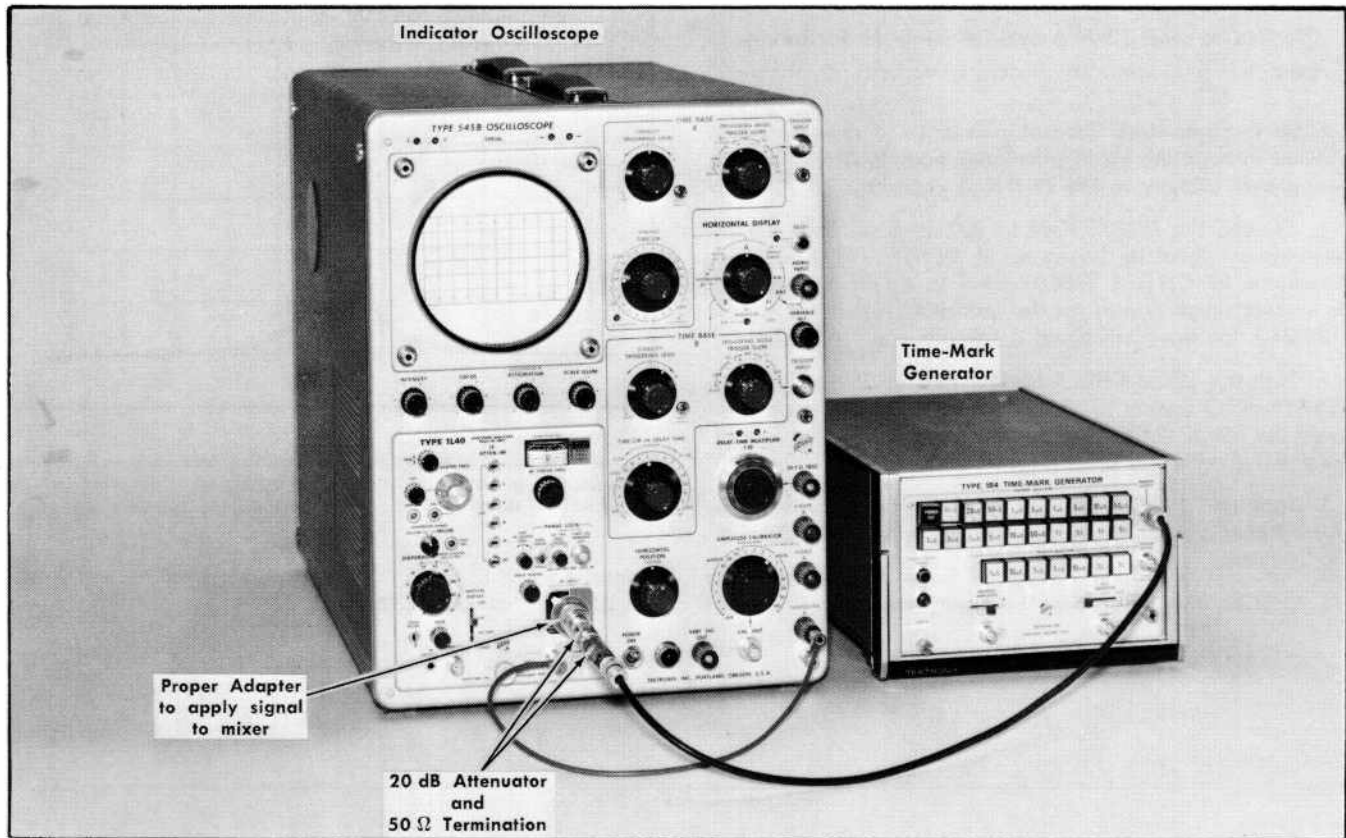

Fig. 5-20. Equipment setup for checking incidental FM.
a. Equipment setup is shown in Fig. 5-20.